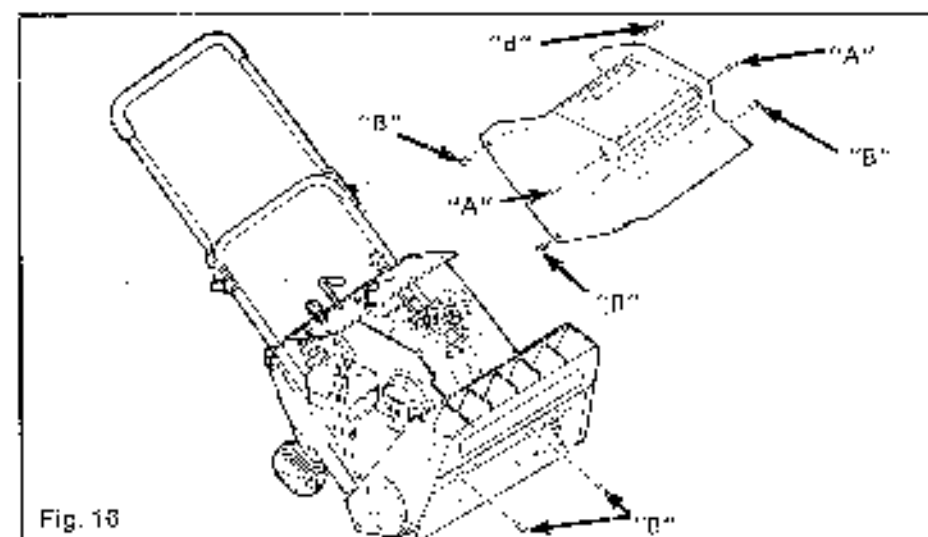

Fig. 16
1. Remove drive cover. Remove the (8) screws (A & B) shown in Figure 16. Two plugs in cover must be removed to reach screws (A).
1. Remove drive cover. Remove the (8) screws (A & B) shown in Figure 16. Two plugs, in cover, must be removed to reach screws (A).